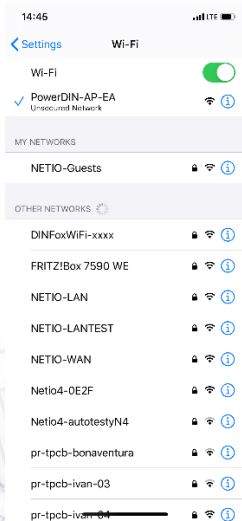

Figure 1
- 2) Connect from PC, tablet or smartphone, to WiFi “**PowerDIN-AP-xx**”. (Figure 1)